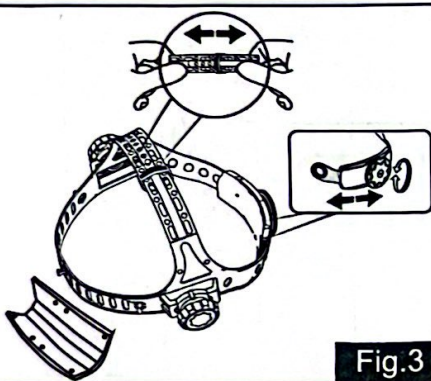
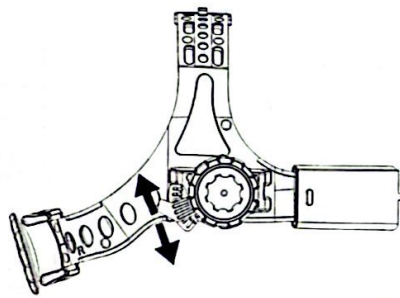
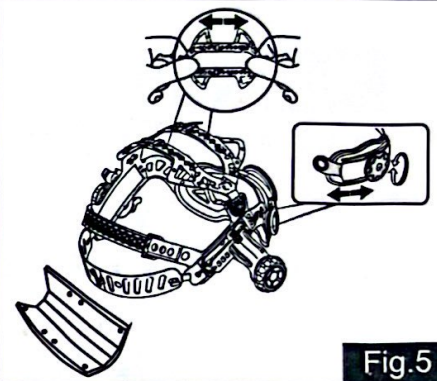
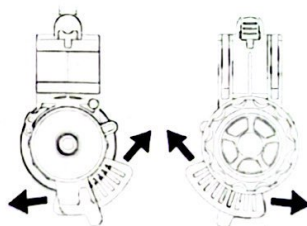

Fig.3
Fig.4
Fig.5
Fig.7
2. Adjust the headgear to make it more comfortable and put shield in the correct position according to individual preference. See Fig.3-Fig.4 and Fig.5-Fig.7, respectively.